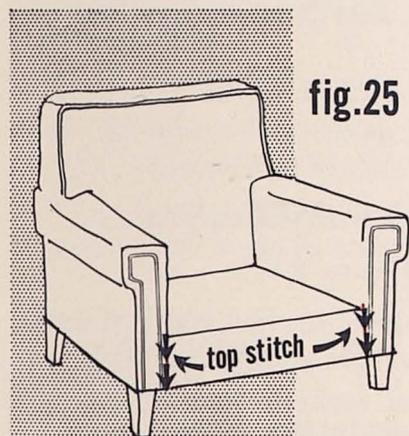

fig.25
1. Top stitch unstitched seams of front arms. (Figure 25)